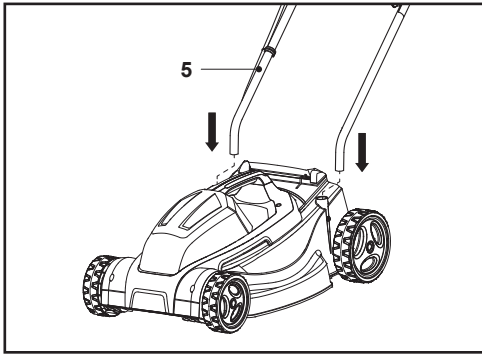
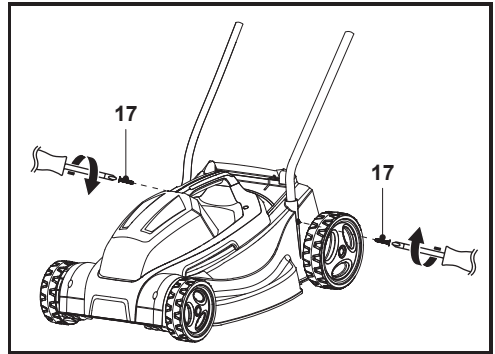

Fig. 1
Fig. 2
1. Insert the lower handle bar (5) into the slots on the lawnmower housing (Fig. 1). Fasten the handle using the lock screws (17) (Fig. 2).